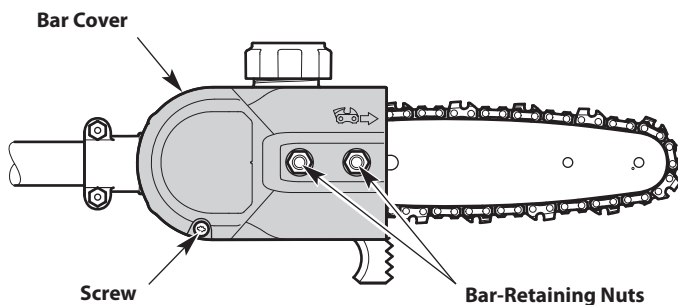

Fig. 11
1. Remove the screw and two (2) bar-retaining nuts (1/2 inch) (Fig. 11).
2. Remove the bar cover (Fig. 11).
**NOTE:** A new saw chain tends to stretch and will need readjustment after as few as five (5) cuts. This is normal during the break-in period. The interval between future adjustments will lengthen quickly.
1. Loosen the bar-retaining nuts, but do not remove them (Fig. 11).